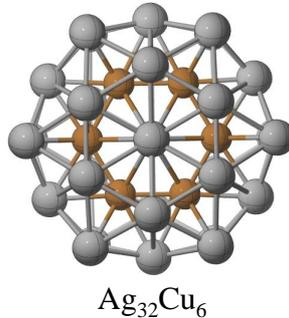

Figure 3.5.2: The global minimum of Ag32Cu6.
Step 3: Now we examine the structure by opening the file `Ag32Cu6.xyz`. See Figure 3.5.2. Amazingly, it is not a “pancake”, with the six copper atoms forming a hexagonal ring!